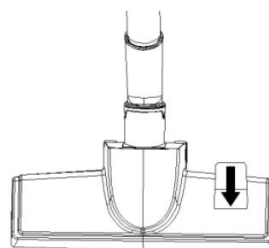

Fig.13
4. Fig.13 - tread on the pedal of the brush tool again to retract the bristles for cleaning of carpets.